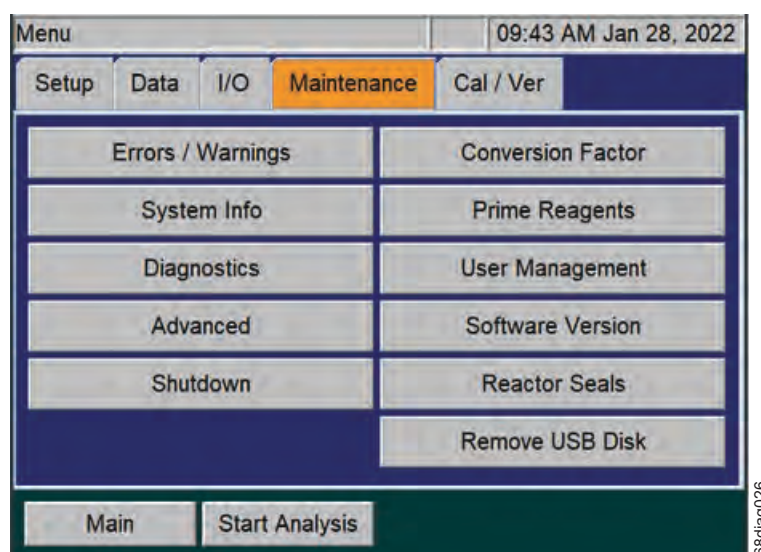

Figure 69: The Maintenance Tab
Configure up to five conversion factors that can be applied to the Analyzer's results by using the Conversion Factor feature (**Maintenance** tab → **Conversion Factor**) shown in Figure 69.
2. Select the **Maintenance** tab and press the **Conversion Factor** button (Figure 69) to access the five available conversion factors (**Factor 1**, **Factor 2**, **Factor 3**, **Factor 4**, and **Factor 5**).